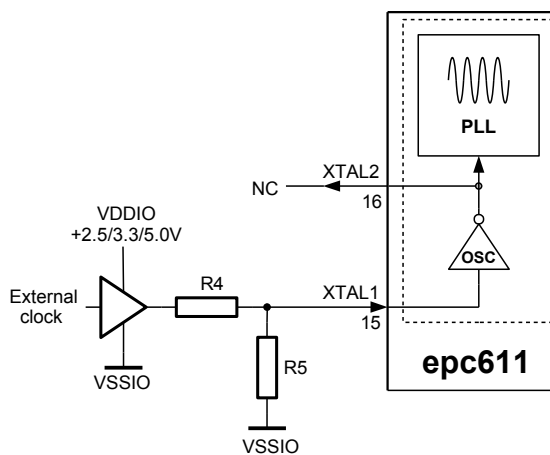

Figure 14: Resistor divider to adjust clock levels to V_{DDPLL}
2. Instead of a crystal, an external 4 MHz clock source can be connected to the XTAL1. XTAL2 output pin left unconnected. The input clock signal level must match V_{DDPLL} supply level (see Table 1). If the external clock source comes from the +2.5/5.0V voltage domain, a resistor divider adapts it e.g. in Figure 14 and Table 11.